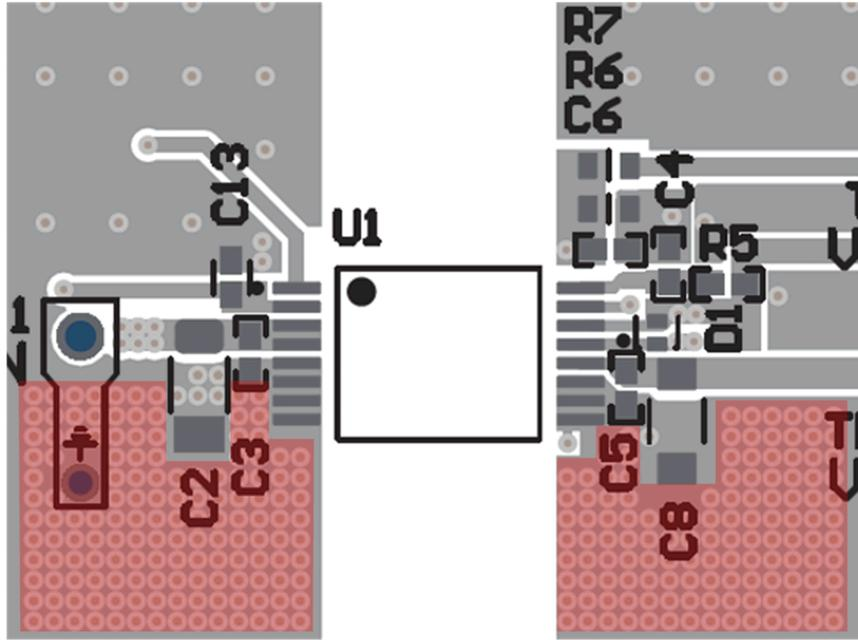

Figure 8-8. Thermal Vias
- f. A layout example is shown in Figure 8-8. For cases where less copper area is available, use as many thermal vias as the design permits, placed close to pins 5-8 (primary) and 9-11 (secondary).